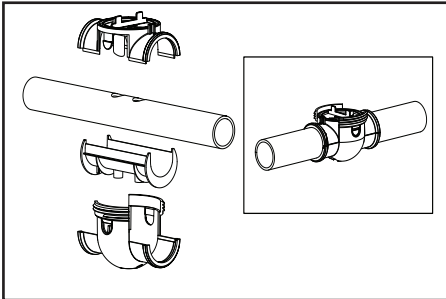
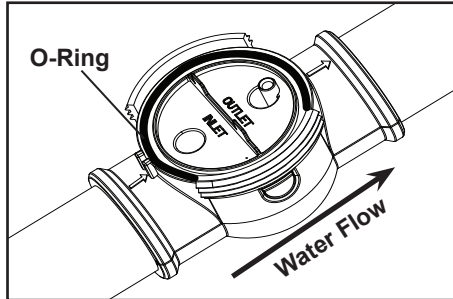

Figure 10. Attaching Cell Clamps
Figure 11. Water Flow Arrows
11. Secure the clamps, pipe spacer, and gasket around the pipe as shown (see Figure 10) **making sure the flow arrows on the clamp point in the direction of the water flow** (see Figure 11). Make sure the two (2) clips on the sides of the clamp are snapped into place.
12. Insert the o-ring into the channel on the clamp and then attach the cell (see Figure 11 and 12).